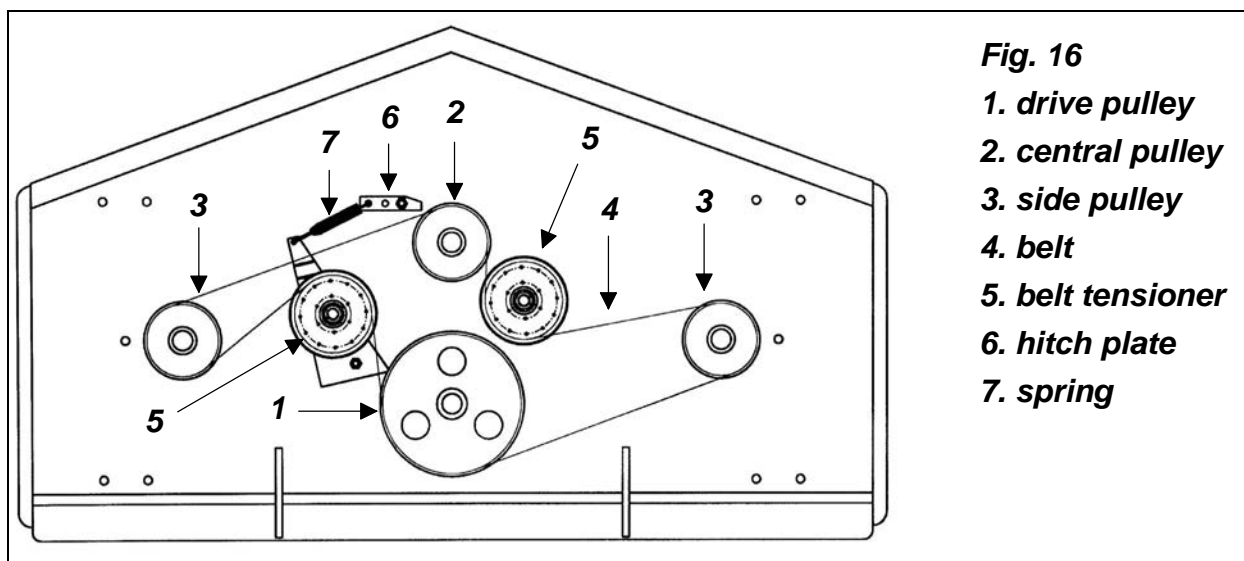

Fig. 16
6. Replace new belt starting from the right spindle pulley (**see fig. 16**).